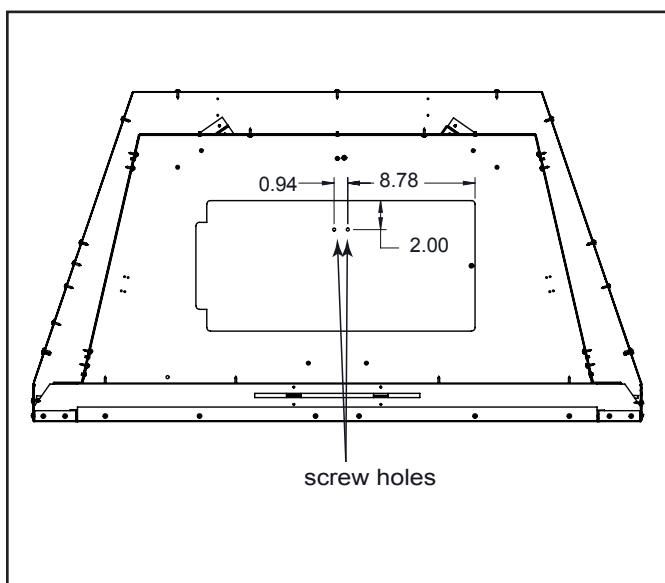

Figure 10
NOTE: Units with serial numbers BUF36/R VF0048744/ BUF42/R VF0048745 and earlier must drill two (2) holes to attach the sensor. See Figure 10.